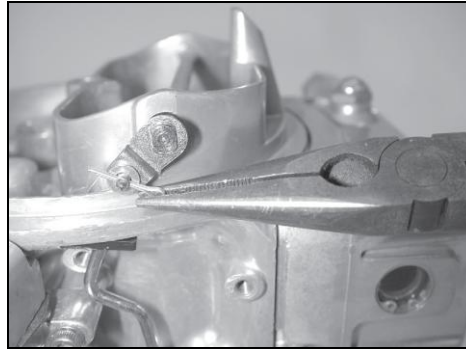

Figure 7
7. Insert the choke rod through the hole on the end of the bracket on the choke butterfly shaft (Fig. 7). Secure the rod with the 1/2" cotter pin.